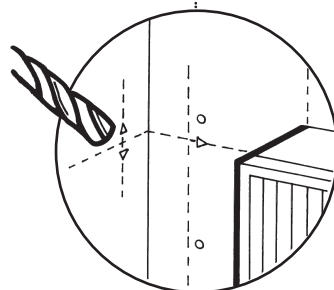

Fig. 44
12. Cut a hole approximately 107mm (41/4 in) diameter in the masonry for the 100mm (4 in) diameter flue duct (Fig. 44). (Use of a core drill is recommended. When using a core drill, it is important to keep the drill level and square, particularly with the wall onto which the boiler is to be fitted).